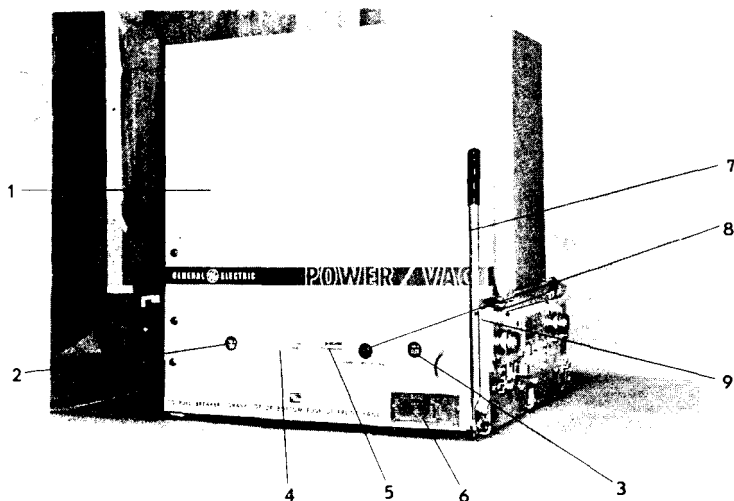

Fig. 1 — Power/Vac* Breaker — Front View
If control power is lost, or manual operation desired, the close spring may be manually charged by using a $\frac{5}{8}$ inch hex socket ratchet-type wrench to rotate the manual charging wind shaft, (8) Fig. 1, in the direction indicated by the arrow until the yellow indicator shows "CHARGED".